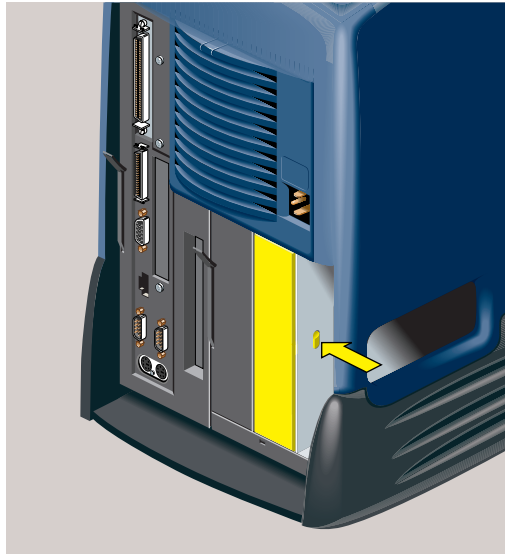

Figure 3-6 Removing the Panel From the Optional Drive bay
6. Press the button on the side of the optional drive bay to release the front panel (Figure 3-6).